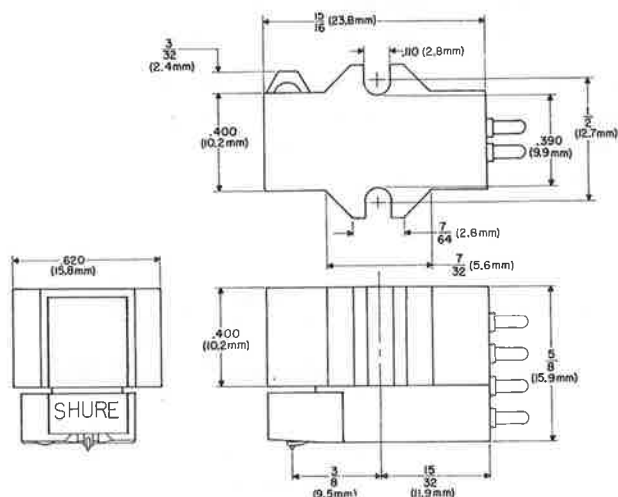

FIGURE 1
**MOUNTING:** The M55E Dynetic Cartridge has standard  $\frac{1}{2}$ " (12.7mm) mounting centers (See Figure 1). Hardware is supplied with each cartridge for mounting purposes.